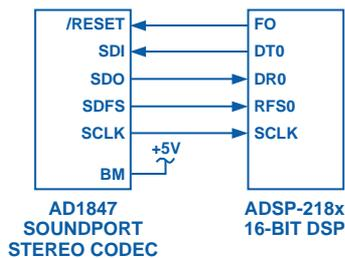

Figure 2. Serial interfacing between digital signal processor and I/O device.
*Serial Interface:* Ease of hardware interfacing is an important element of efficient DSP system implementation. The ADSP-2181 EZ-Kit Lite system uses an AD1847 serial codec (COder/DECoder). Serial codecs permit data transfers via a serial port (SPORT) on the DSP. This serial port is not an RS-232 PC-style asynchronous serial port; it is a 5-wire synchronous interface that passes bit-clock, Receive-data, Transmit-data, and frame-synchronization signals. Major benefits of serial interfaces are low pin count and ease of hardware hookup. The AD1847 requires only 4 signals to interface to the DSP: serial clock, Receive data, Transmit data, and Receive frame-synchronization signal. The serial data stream is time-division multiplexed (TDM), meaning that the same physical line can carry more than one type of information in serial order. In the case of the AD1847 application on EZ-Kit Lite, initiated in the last issue, the serial line carries both left- and right-channel audio information, along with codec control and status information. As noted earlier, the processor has various means for handling this data. SPORT Interrupts are generated automatically by the serial port hardware for either Receive or Transmit data and for either a single word or a block of words (Figure 2).